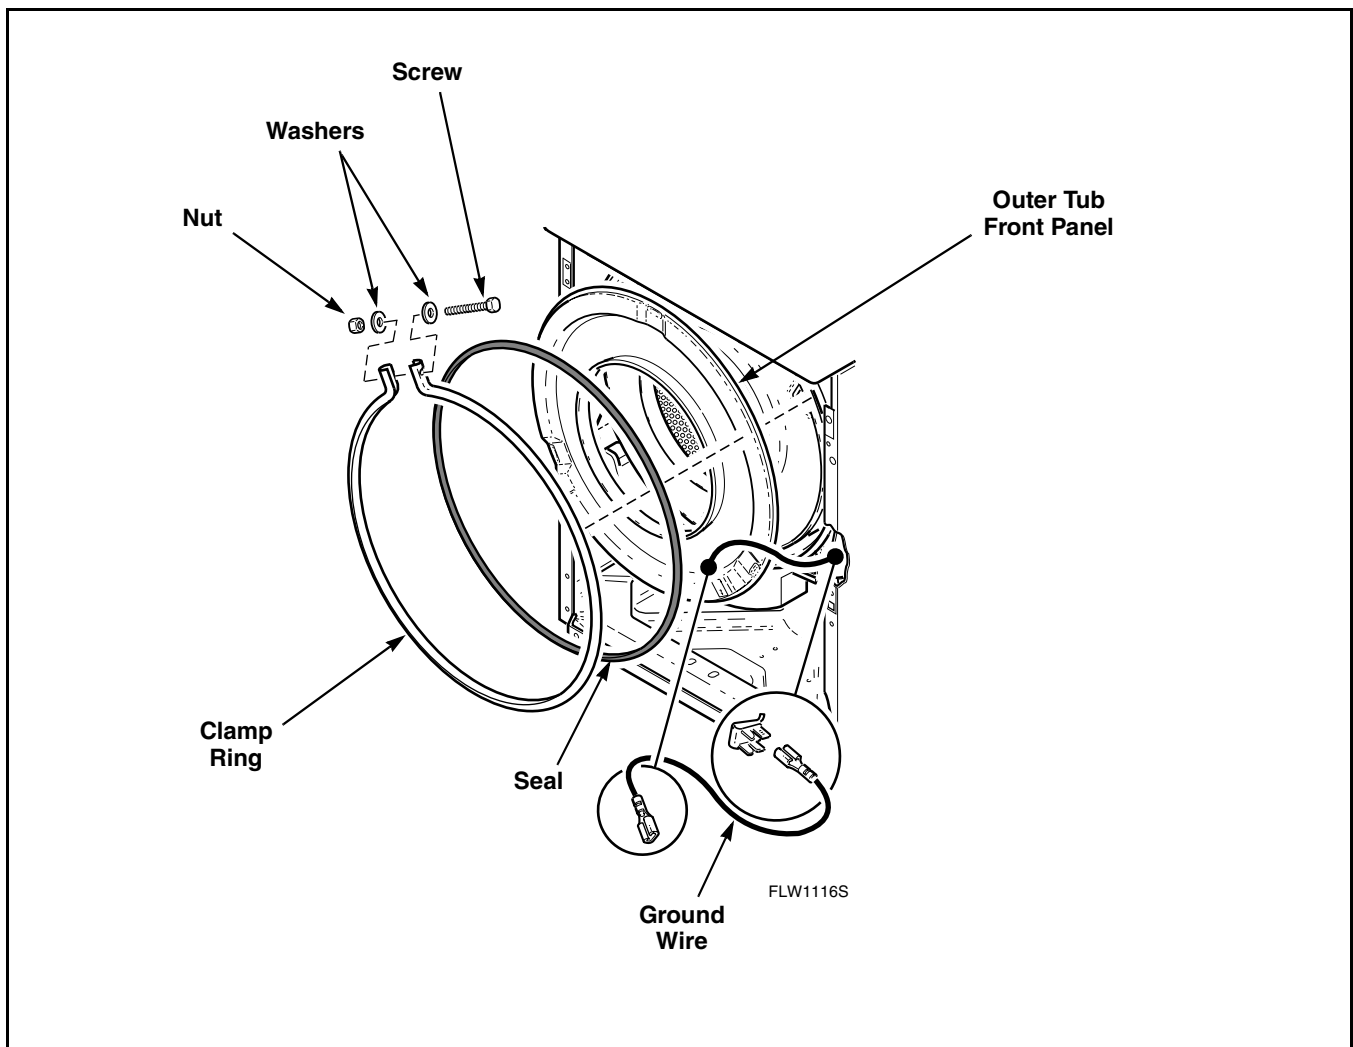

Figure 20
- p. Disconnect ground wire from outer tub front panel. Refer to *Figure 20*.
- q. Remove nut, washers and screw holding clamp ring to outer tub front panel. Refer to *Figure 20*.
- n. Disconnect ground wire from outer tub front panel. Refer to *Figure 20*.
- o. Remove nut, washers and screw holding clamp ring to outer tub front panel. Refer to *Figure 20*.